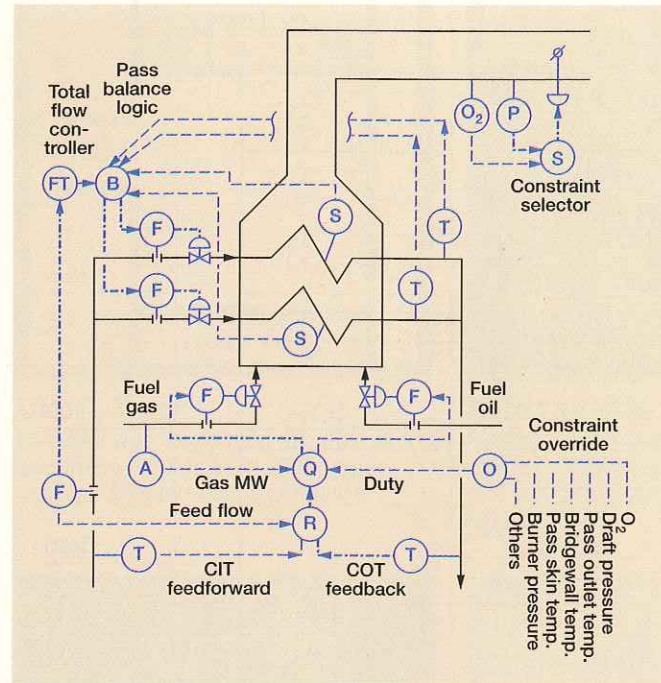

Fig. 2. Furnace controls.
**Fuel calorific value calculation (Fig. 2).** This scheme calculates fuel calorific value from density. Fuel gas density is measured by an on-line analyzer while fuel oil density is a manual input. The reasons for these calculations: